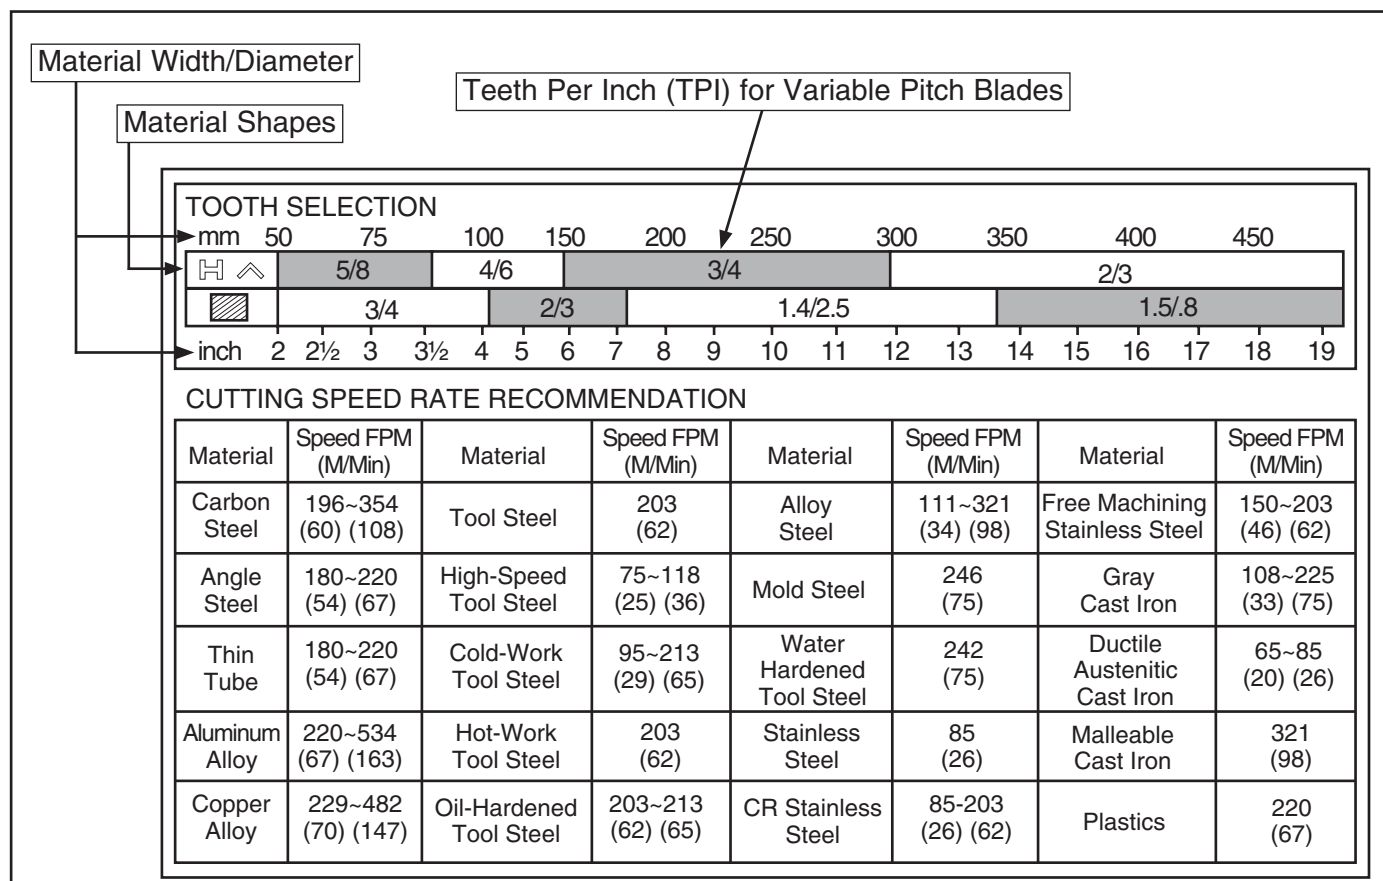

Figure 38. General guidelines for blade selection and speed chart.
2. Refer to the "Material Width/Diameter" row of the blade selection chart in **Figure 38**, and read across to find the workpiece thickness you need to cut.